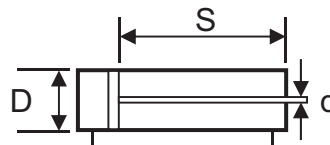

Fig. 16
- (iv) With reference to **Fig. 16** and the data below, calculate the volume of air consumed by the double acting cylinder during one complete cycle. Assume $\pi = 3.14$.